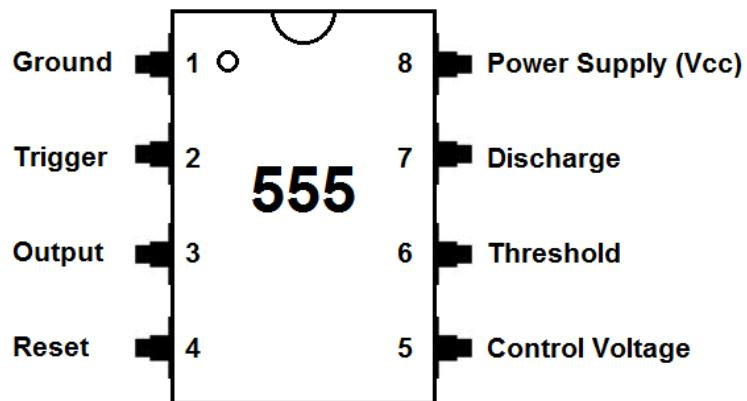

Figure 1.11: 555 Timer Chip Pin-out
The switching frequency of 50,000 Hertz was selected for our DC-DC Boost converter. The highest frequency that can be obtained from the Arduino Uno without making any changes to the internal timer on the ATMEGA chip is supposed to be 62500 Hertz. Our selected frequency (50KHz) was reasonable enough to generate a PWM using Arduino Uno. The duty ratio of the boost converter is changed depending on the value of our input and output voltages. With the values of 5 Volts input voltage and 12 volts output voltage, the desired duty ratio to boost our input voltage was selected to be 0.58 or 58%. The attached “PWM.h” file helped us to obtain the desired frequency by taking care of the registers inside the ATMEGA chip. Figure 1.11 shows the Arduino code that controls the frequency and the duty ratio of the PWM. The duty cycle can be changed depending on the desired output voltage. A call to pwmWrite is on a scale of 0 to 255, in which pwmWrite(255) sets a 100% duty cycle. In order to get a 58% duty cycle, that is the 58% of 255, a duty value of 147.9 (353/2.38) was set to the PWM pin.